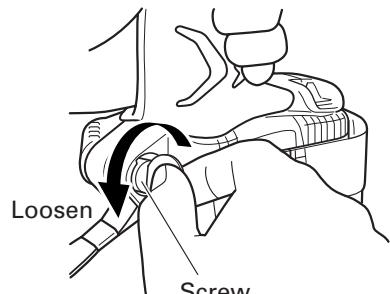

Fig. 8
- Securely hold the main unit and remove the screw using a slotted head screwdriver or a coin. (Fig. 8)